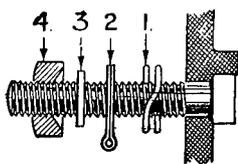

Fig. B.3.
the assembly being :—Spring washer (1), wiring tag (2), lead washer (3), and recessed nut (4), see Fig. B.3. A lead washer has been found necessary at this point as some few cases of bad connection have been found. Under no circumstances must the spring washer be omitted, or the assembly shortened in any way. Any attempt to do so is likely to lead to breakage of the pedestal when the nut retaining the cover in position is tightened up.